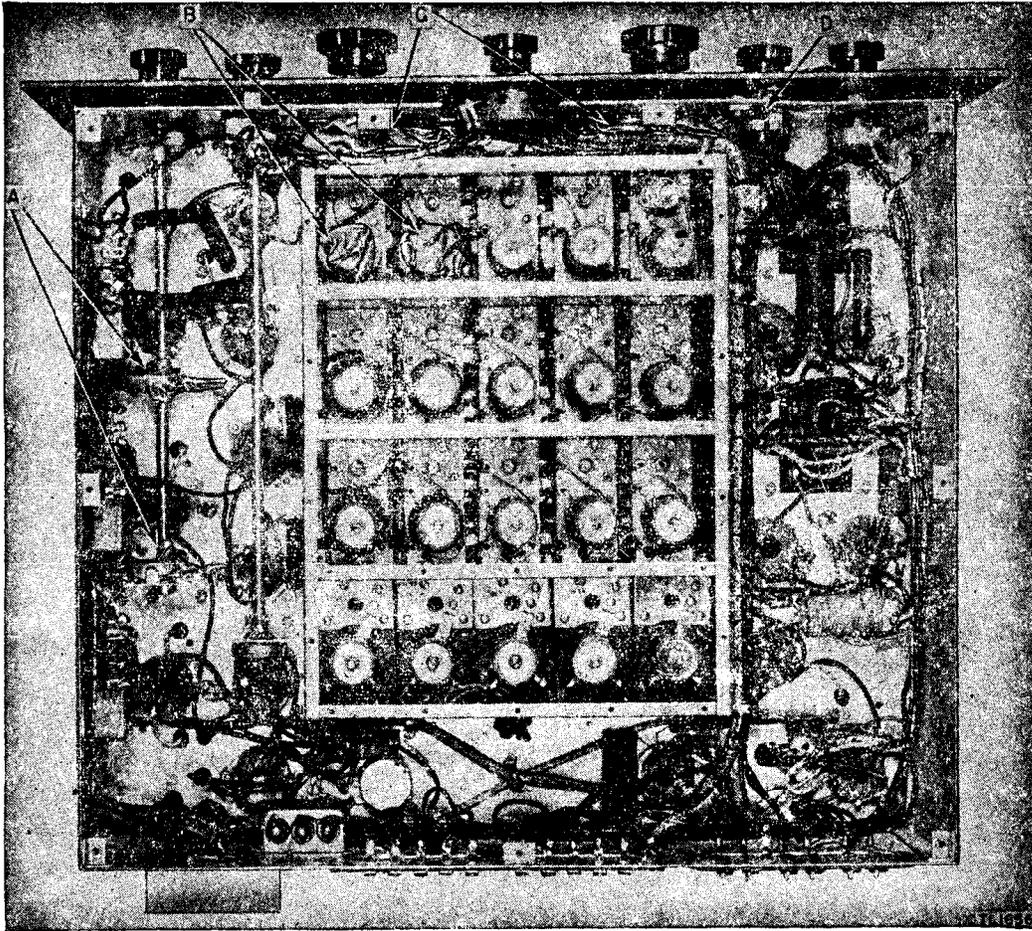

Figure 21. Radio Receiver BC-1004-C, bottom view of chassis, showing masking.
- (4) Cams and levers on bandwidth selector-mechanism shaft (A, fig. 21).
- (5) Capacitors in alinement-adjustment section (B, fig. 21).
- (6) Friction drive wheels of main tuning and band spread selecting mechanism (C, fig. 21).
- (7) Phone jack (D, fig. 21).
e. DRYING. (1) Place equipment in an oven or under heat lamps and dry for 2 or 3 hours at 160° F.